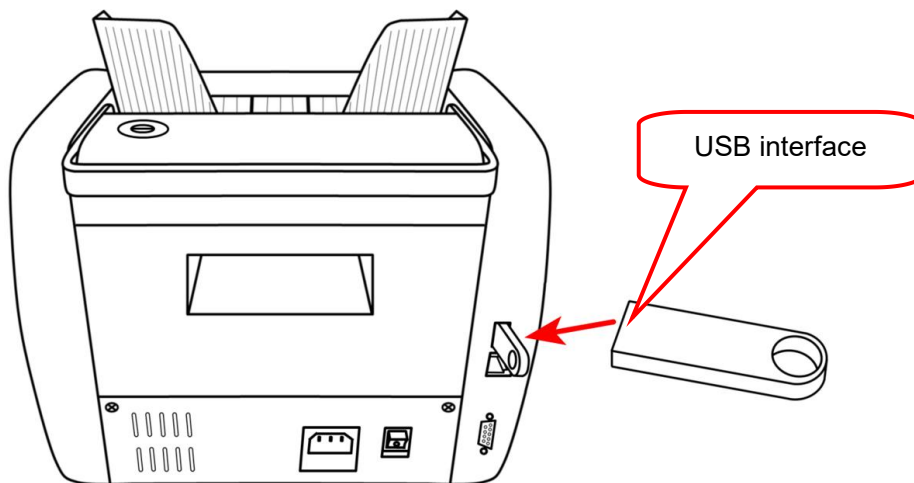

Figure 73
1) Insert the U-disk into the USB interface of the machine when the machine is off, as shown in Figure 73 below: